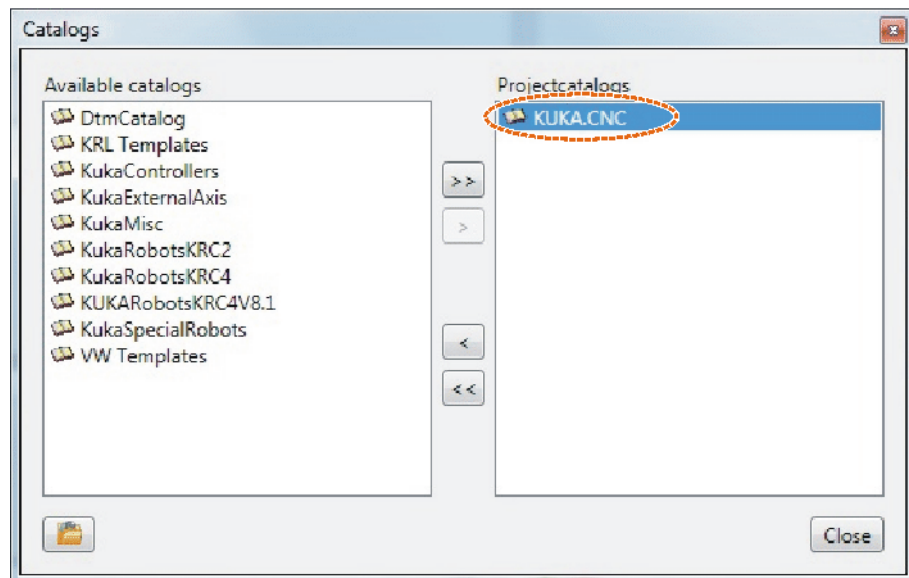

Fig. 6-7: Catalog element open
7. KUKA.CNC catalog is now available (>>> Fig. 6-7).